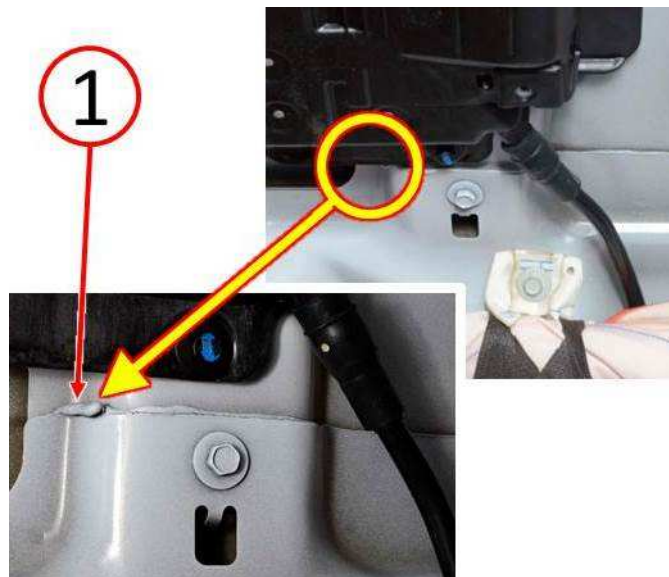

Fig. 2
3. Visually inspect for adhesive filling the space between the sheet metal structural components at C-pillar nearest rear corner of sunroof module where the noise was heard. Can adhesive be seen filling the space identified in (Fig. 2) ?
- YES>>> Repeat the diagnostic test of pushing upward on the dual pane sunroof rear panel at the rear corner with increasing pressure and then releasing while listening for creak/groan noise as performed in Step 1. Ensure that the noise is coming from the area identified in (Fig. 2) before proceeding to Step 4. If noise is not coming from this structural joint, this bulletin does not apply and further diagnosis is required.